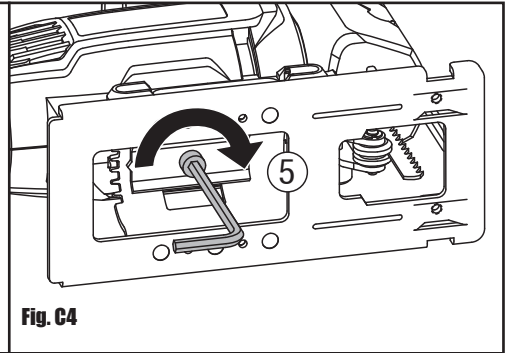

Fig. C4
- 5) Firmly tighten the bolt by turning the bolt clockwise to clamp the base plate at the desired angle. (See Fig. C4) Check the angle and ensure the base plate is firmly clamped.